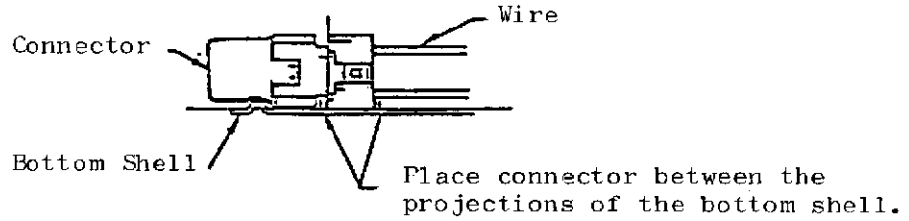

Fig. 10
6.1 Apply rear bottom shell to the connector as shown in Fig. 10.